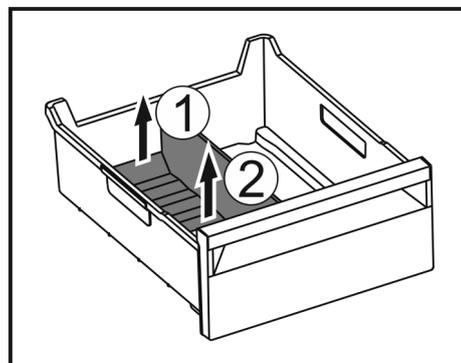

Fig. 135
- ▶ Lift the rear part of the ice compartment divider. Fig. 135 (1)
- ▶ Remove the ice compartment divider upwards. Fig. 135 (2)